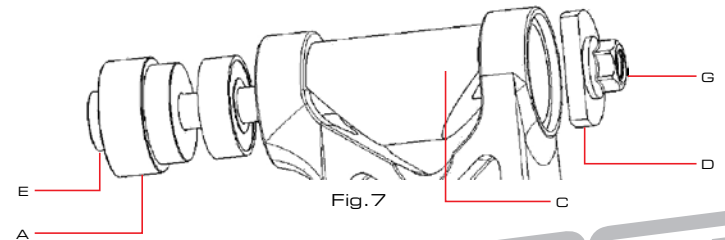

Fig.7
3. To reassemble the lower link you will use the link support included in the Equilink tool kit. Install the bearings one at a time as shown in Fig. 7.